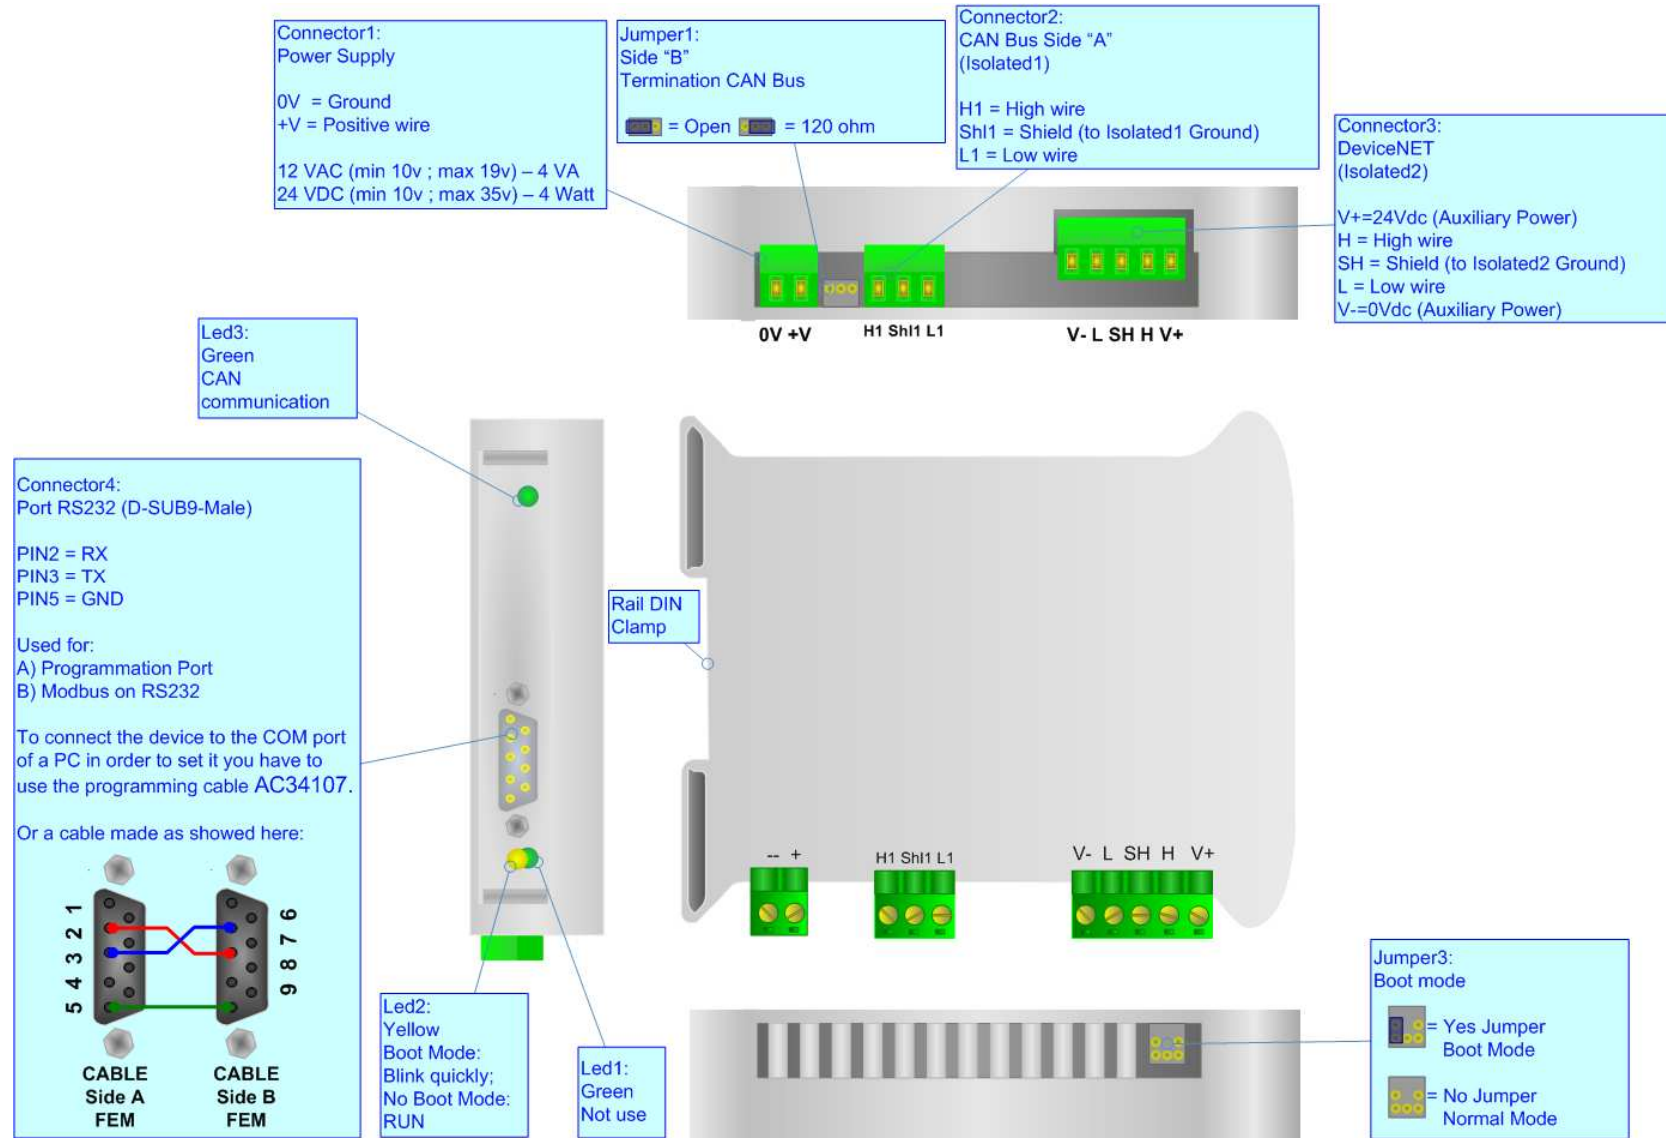

Figure 1: Connection scheme for HD67136
- Insert the Boot Jumper (For more info see Fig. 1);
- Check the Boot Led. It must blink quickly (For more info see Fig. 1)